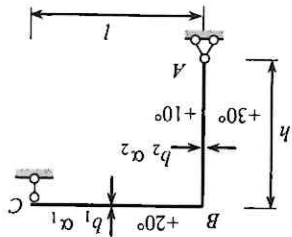

Fig. P6.15
6.15. Find the horizontal and angular displacement at support C of the frame shown in Fig. P6.15, when the indoor temperature rises by 10°C and outdoor temperature rises by 30°C and 20°C for elements AB and BC , respectively. The height and temperature coefficients of the elements BC and AB are b_1, α_1 and b_2, α_2 , respectively.